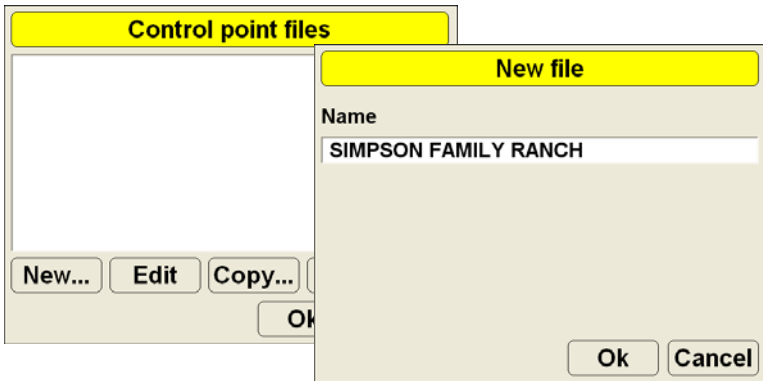

Figure 3-1. Create New Control Point File
2. Press **New** to create a new control point file (Figure 3-1).
3. Tap the Name entry field to enter a name for the control point file (Figure 3-1). Press **OK** on the keyboard and then the New file dialog box.